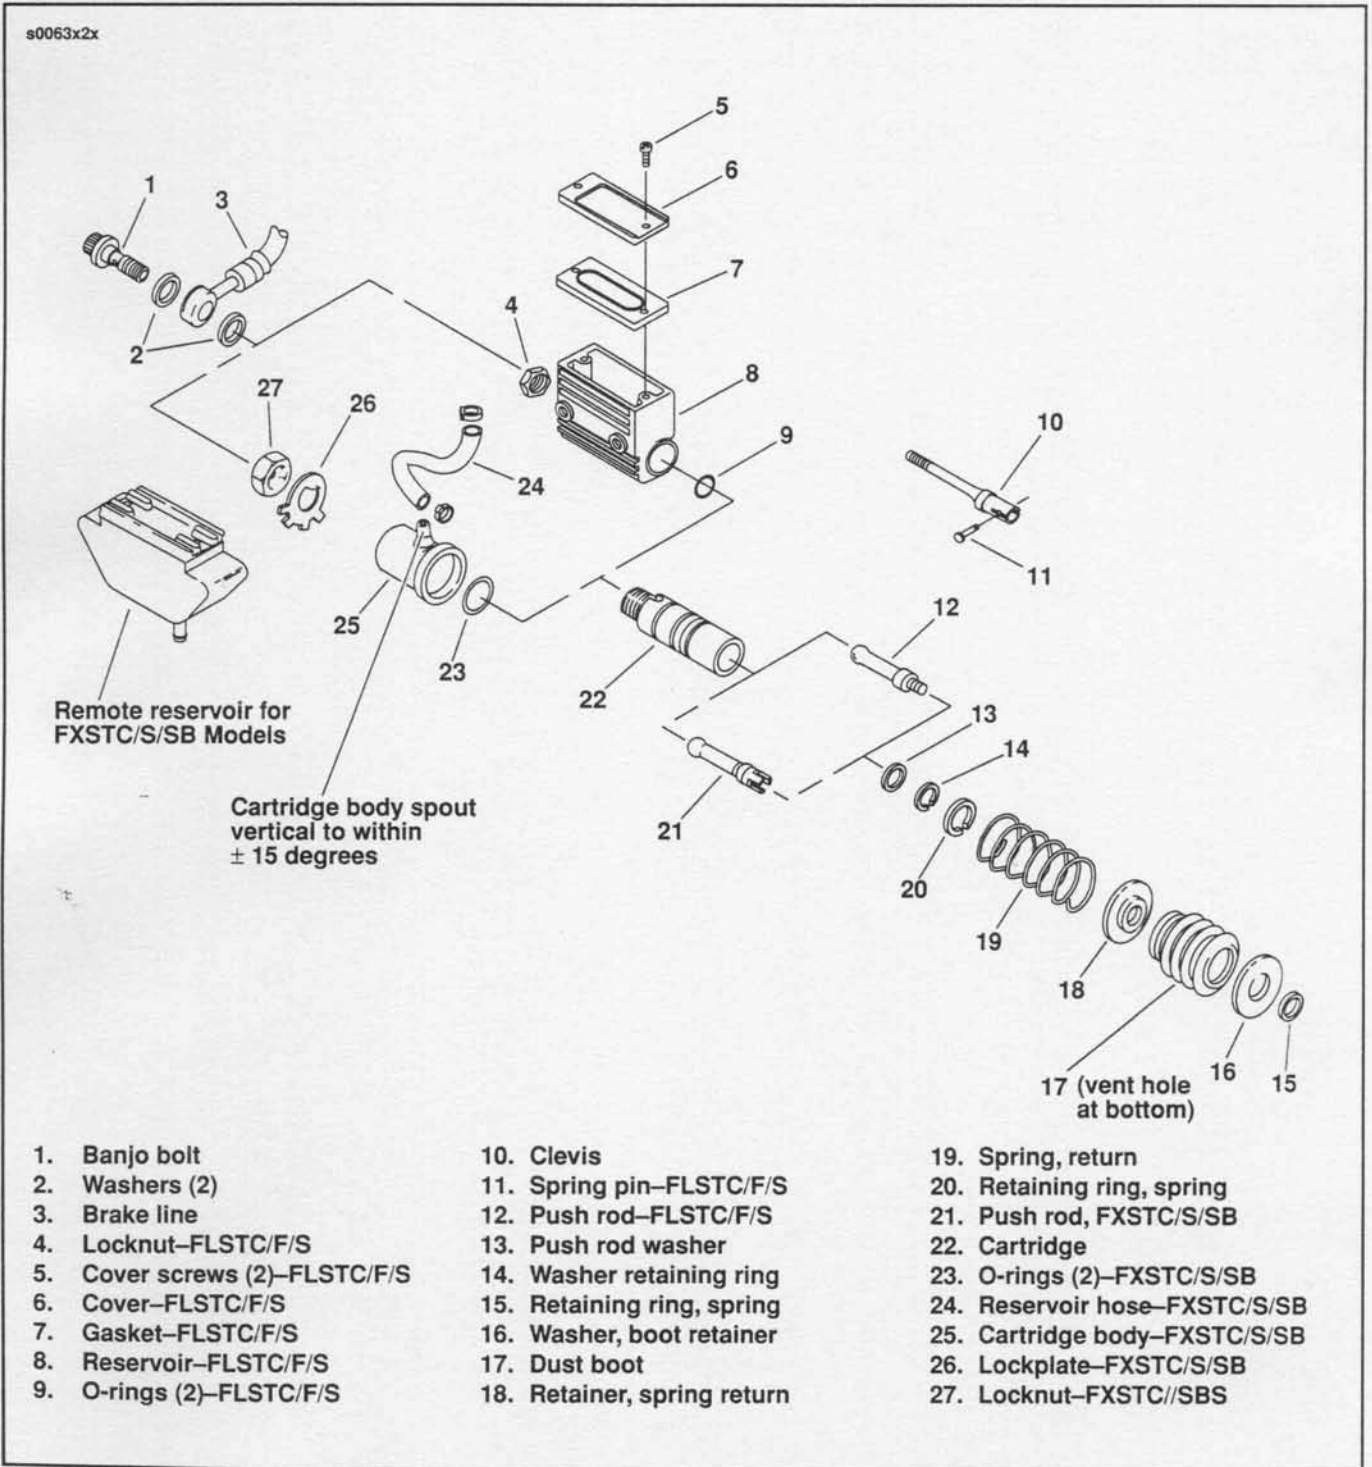

Figure 2-47. Rear Brake Master Cylinder/Reservoir Assembly
3. See Figure 2-47. Disconnect clevis (10) from brake pedal.
4. Remove banjo bolt (1), washers (2) and brake line (3). Discard washers.
5. Remove locknut (4).
1. See Figure 2-47. Screw push rod (12) onto clevis (10) by rotating master cylinder/reservoir assembly. Screw clevis onto push rod until it is snug. Install spring pin (11).
2. Install locknut (4) on master cylinder/reservoir assembly. Do not tighten locknut at this time.
3. Install brake line (3) using banjo bolt (1) and NEW washers (2). Hold brake line in place and tighten banjo bolt to 17-22 ft-lbs (23-30 Nm). Tighten locknut (4) to 30-40 ft-lbs (41-54 Nm).
2. See Figure 2-47. Disconnect clevis (10) from brake pedal.
3. Remove banjo bolt (1), washers (2) and brake line (3). Discard washers.
4. Remove reservoir hose (24). Be careful not to break cartridge body (25) nipple when removing reservoir hose.
5. Remove cylinder mounting nut (27) and lockplate (26).
1. See Figure 2-47. Screw push rod (21) onto clevis (10) by rotating master cylinder assembly. Do not tighten jam nut at this time.
2. See Figure 2-47. Screw banjo bolt into the cartridge (22).
3. Remove dust boot (17) lip from groove in reservoir body (8).
4. Remove spring pin (11) from clevis (10) and push rod (12). Unscrew clevis from push rod.
1. See Figure 2-47. Clean all parts, except the cartridge (22), with a clean, nonflammable solvent and blow dry with compressed air. Clean all rubber parts using denatured alcohol or brake fluid.
2. Inspect reservoir body (8) bore for scratches. Replace if scratched or damaged.
3. Check dust boot (17) for tears or damage. Replace if torn or damaged.
4. Inspect threads on reservoir body (8), push rod (12) and banjo bolt (1). Replace any part with damaged threads.
5. Carefully remove large O-rings (9) from cartridge (22).
1. See Figure 2-47. Lubricate the O-rings (9) with D.O.T. 5 hydraulic brake fluid and install in the grooves on the cartridge (22).
2. Lubricate bore of body (8) with D.O.T. 5 hydraulic brake fluid.
3. Insert cartridge (22) into reservoir body (8) using hand pressure only. Be sure notch on cartridge engages lug inside reservoir body.
4. Screw banjo bolt (1) into cartridge and set master cylinder on work bench, resting on banjo bolt.
5. Place washer (13) on push rod (12). Install washer retaining ring (14) on push rod.
6. Insert ball-end of push rod (12) into cartridge and push into cartridge until washer (13) is properly seated in the cartridge bore.
7. Install washer retaining ring (14) in groove inside the cartridge bore. Be sure retaining ring is fully seated in the groove.
8. Release pressure on push rod (12) and be sure push rod rotates freely.
9. Place return spring (19), return spring retainer (18), dust boot (17) and washer (16) in position on the push rod (17).
2. See Figure 2-47. Screw banjo bolt (1) into the cartridge (22).
3. Remove dust boot (17) lip from groove in cartridge body (25).